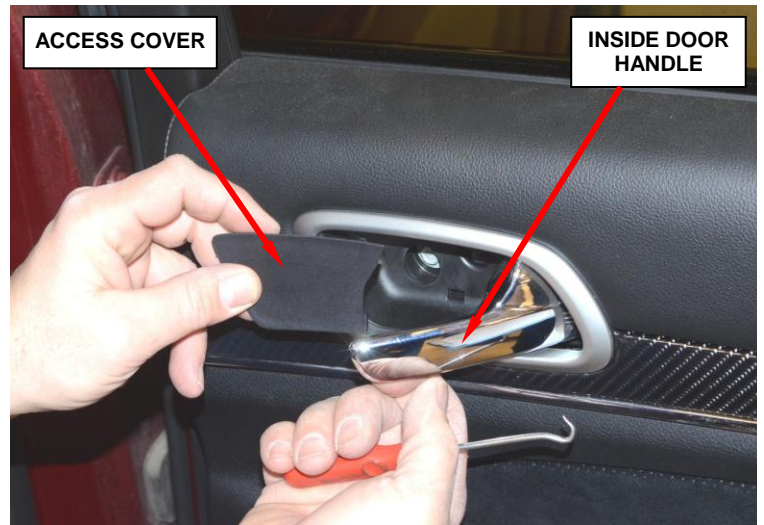

Figure 18 – Inside Door Handle Access Cover
1. Remove and save the inside door handle screw access cover (Figure 18).